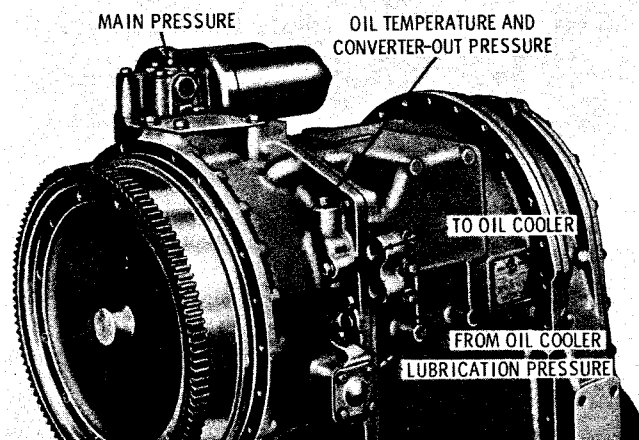

Fig. 3-1. Oil pressure, temperature and cooler check and connection points
a. Check Points. Figure 3-1 illustrates the points at which oil temperature and oil pressures may be checked. The vehicle may be equipped with a temperature gage, which indicates the converter-out oil temperature. And the vehicle may include a pressure gage, connected to the main-pressure check point. Clutch pressure, during normal operation, is approximately equivalent to main pressure. Therefore, the reading from the main-pressure gage may be considered the clutch pressures of the clutches engaged when the gage is read.
(1) Install a temperature gage in the oil temperature check point (fig. 3-1).
(2) Start the engine and allow it to idle until the transmission is warm.
(3) Stall the transmission output. If the transmission is in a vehicle, the output may be stalled by shifting to forward (or reverse) and to high range, and applying the vehicle brakes securely. Block the vehicle against movement for added safety.
(4) Increase the engine speed to full throttle and observe the temperature gage. When the temperature stabilizes at 225 to 230 degrees Fahrenheit, release the throttle momentarily and shift to neutral. Then increase engine speed again to full throttle.